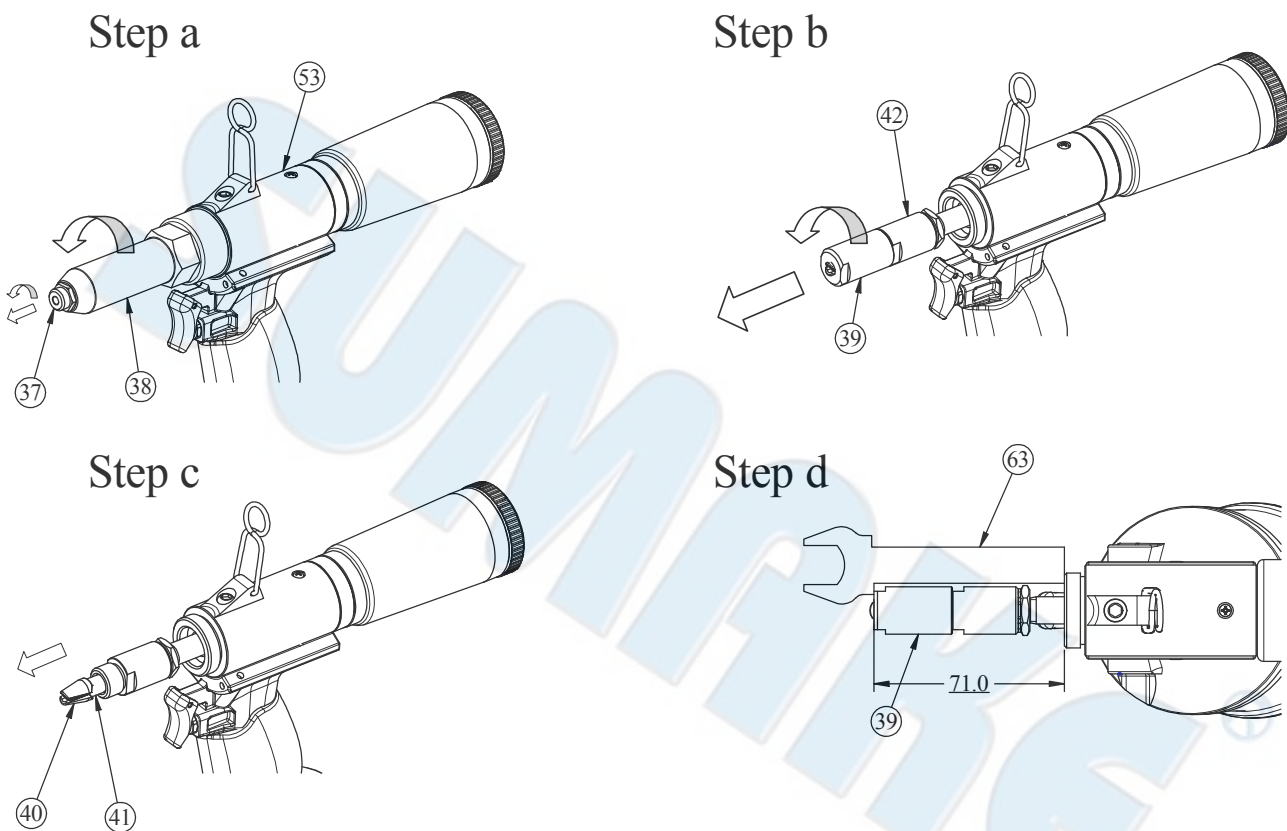

Fig. 2 Detail illustration of change the nosepiece, jaw, and jaw pusher.
FIG 2 DETAIL ILLUSTRATION OF CHANGE THE NOSEPIECE, JAW, AND JAW PUSHER. ....	4
- Loosen and remove the nosepiece (Index 37 in Figs. 2 & 5), then set up the desired nosepiece (Index 37-1~37-3 in Figs. 2 & 5) on frame head as shown in Fig. 2;
- Loosen and remove the frame head (Index 38 in Figs. 2 & 5) from the oil cylinder body (Index 53 in Figs. 2 & 5) as shown in Fig. 2;
- Loosen and remove the jaw housing (Index 39 in Figs. 2 & 5) from the jaw housing coupler (Index 42 in Figs. 2 & 5) as shown in Fig. 2;
- Take out the jaw and jaw pusher (Index 40, , 41, in Figs. 2 & 5), then change on the matching the jaw and jaw pusher.
- Then assemble the jaw housing and adjust it's length to match the spanner gauge (Index 63 in Figs. 2 & 5) as shown in Fig. 2;